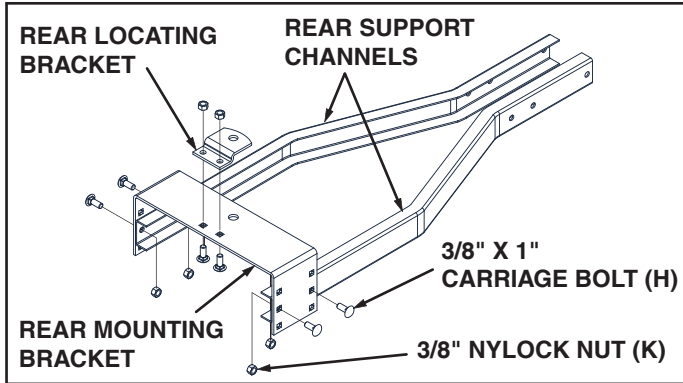

FIGURE 9
STEP 9: (SEE FIGURE 9)
- Install the Rear Locating Bracket to the top of the Rear Mounting Bracket using two 3/8" x 1" Carriage bolts (H) and 3/8" nylock nuts (K). **Tighten** nuts.
- Install the Rear Support Channels to the middle set of holes in the sides of the Rear Mounting Bracket using four 3/8" x 1" Carriage Bolts (H) and 3/8" nylock nuts (K). **Finger tighten only.**